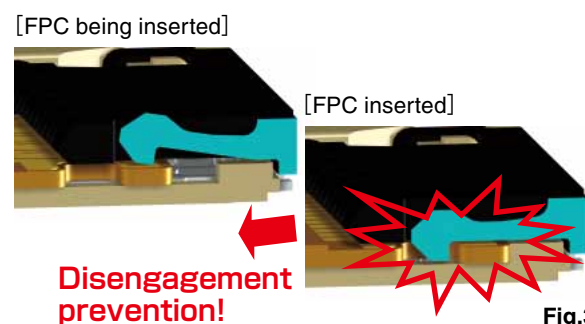

Fig.3
- The notches on both sides of FPC are held by the lock lever, generating a high FPC retention force in spite of the small size (Fig.3).